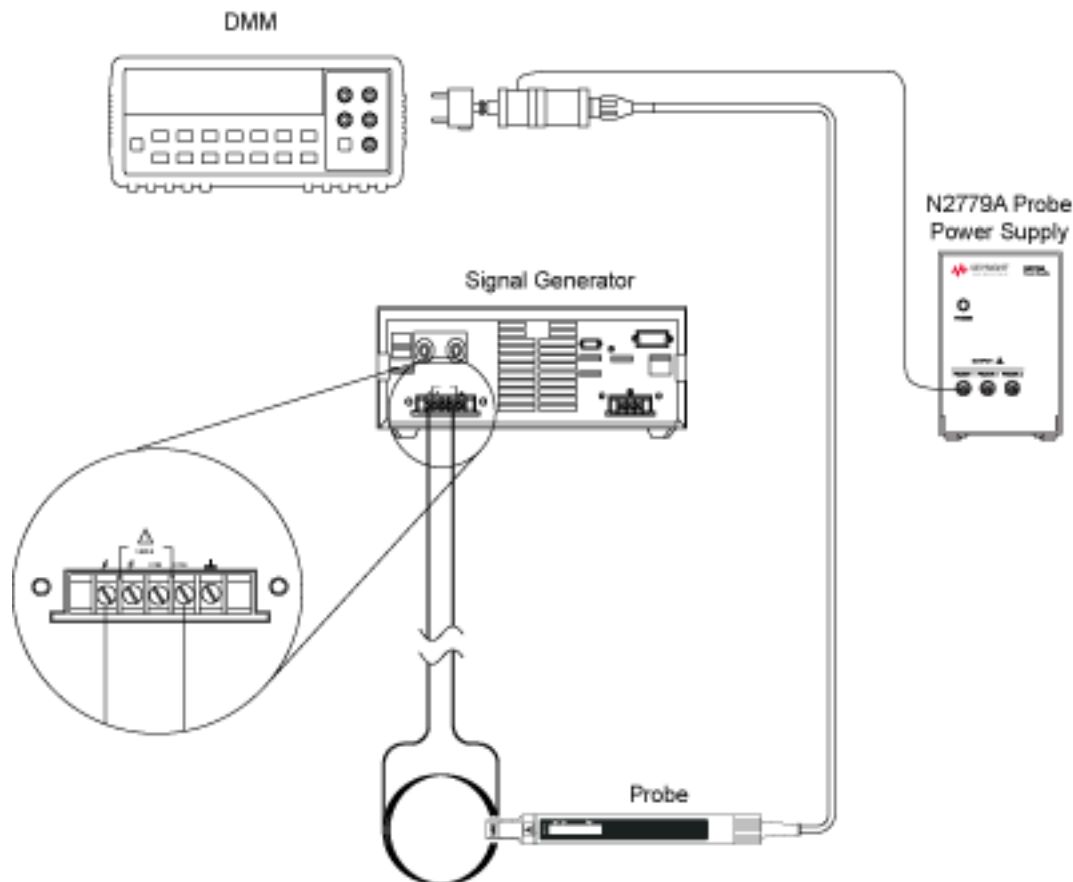

Figure 28 Test Setup Shown with N2782B
- 1 Connect the equipment as shown in **Figure 28**. Warm up all instruments for 30 minutes before starting the test procedure. While the test system is warming up, clean the magnetic contacts on the probe jaw.